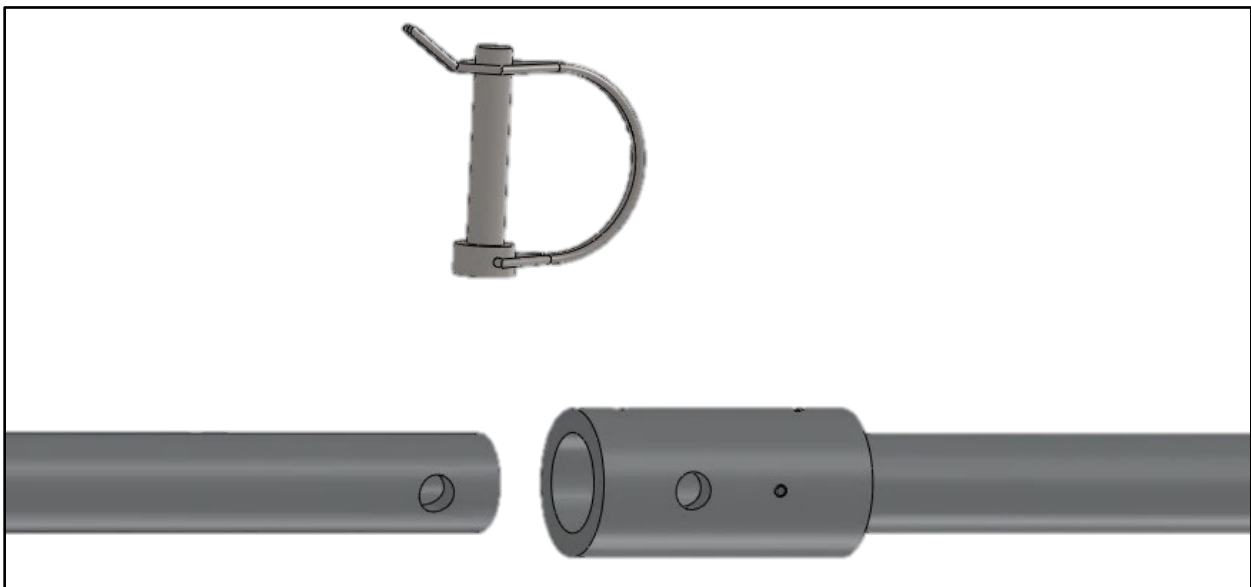

Figure 2: Assemble Drill Extension
5. Align the holes and insert another safety pin (Figure 2).